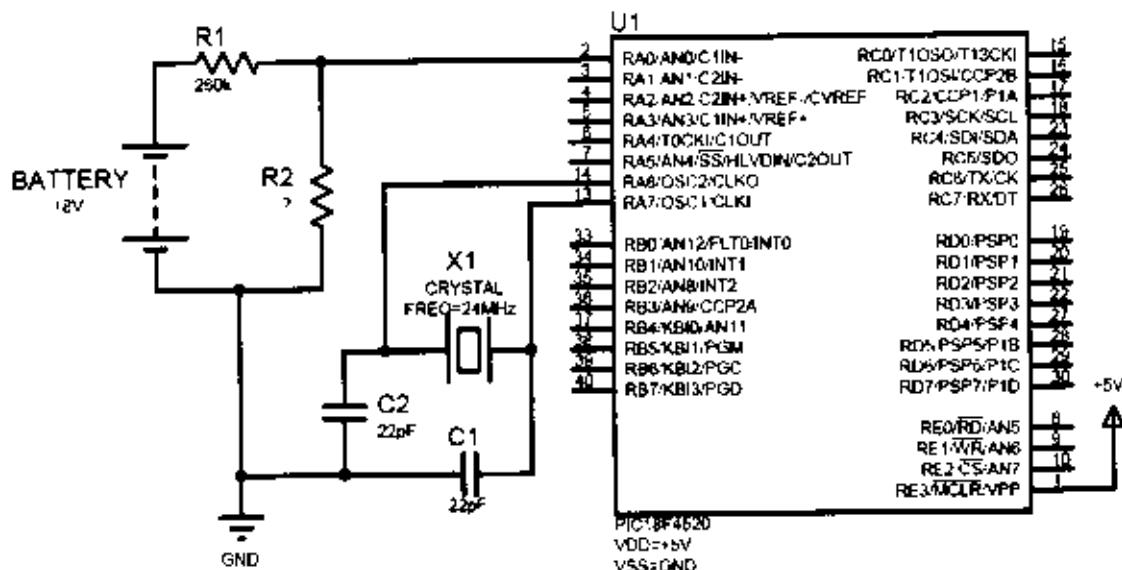

FIGURE Q2
- Q2** A PIC18F4520 microcontroller circuit as shown in Figure Q2 is used to measure the voltage of Lead-Acid battery from 0V to 18V. Assume that the external crystal oscillator is 24MHz, Vref+ is +5V, Vref- is GND and analog input is configured only at AN0.